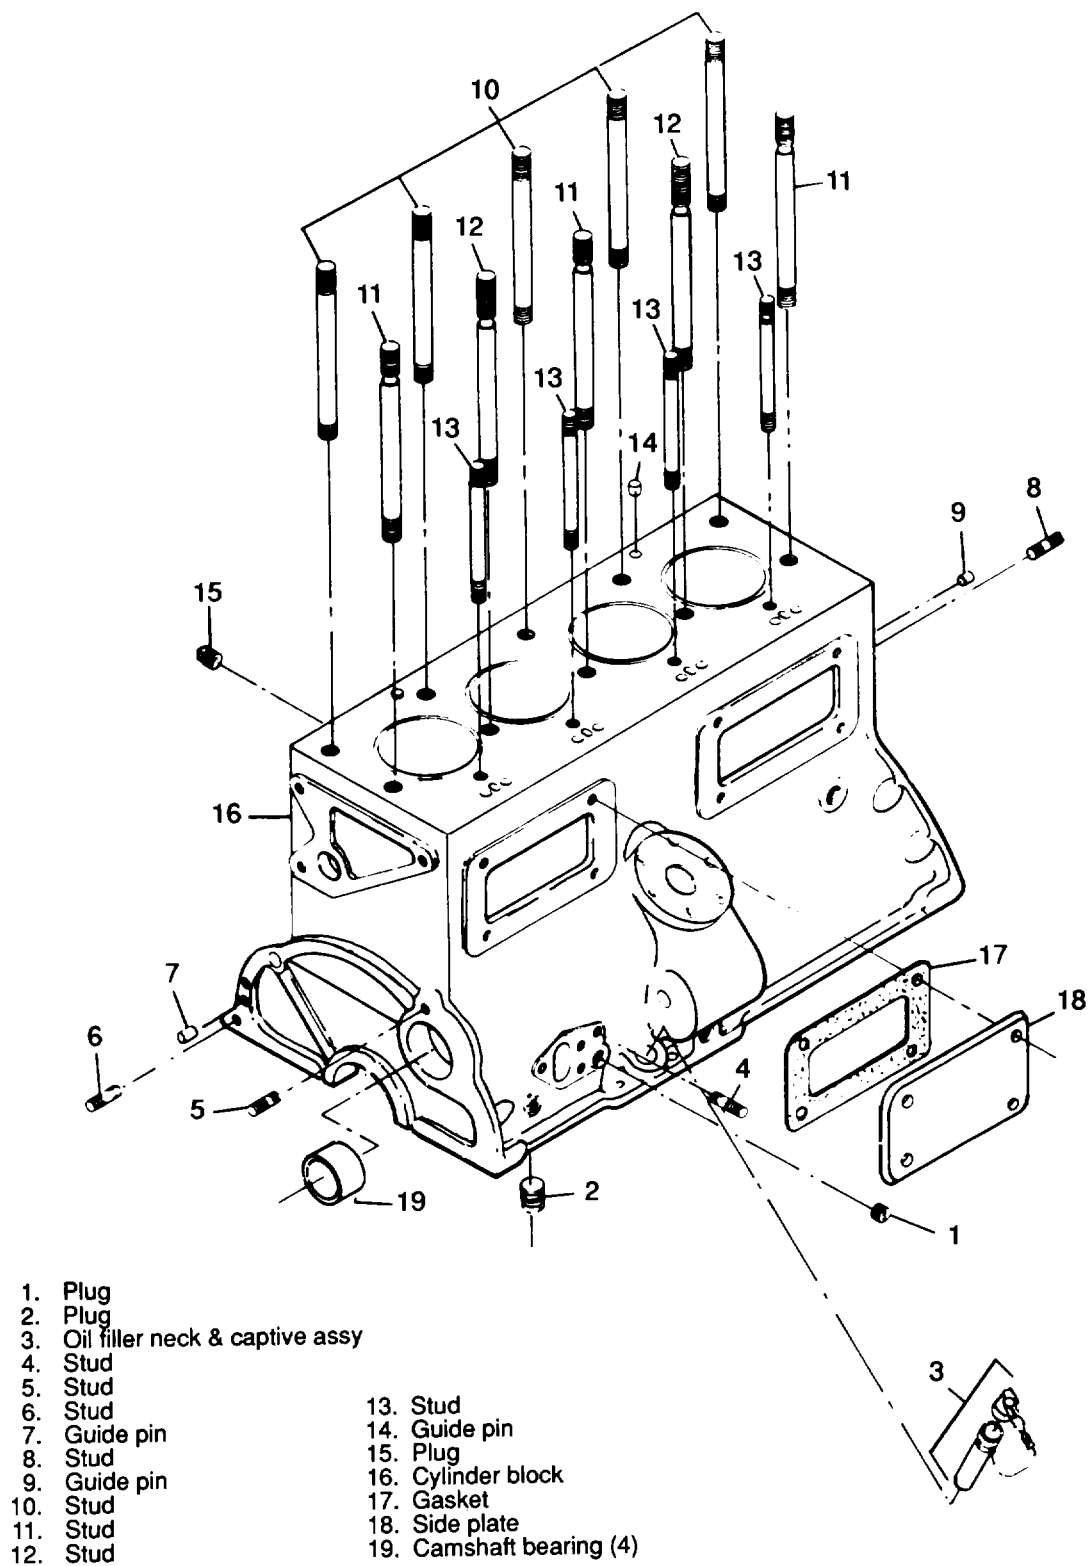

Figure 3-53. Cylinder Block Assembly, Exploded View
- (1) Remove engine assembly (paragraph 2-6).
- (2) Remove timing gears and cover (paragraph 3-51).
- (3) Remove flywheel and flywheel housing (paragraph 3-50).
- (4) Remove cylinder head and rocker arm assembly (paragraph 3-54).
- (5) Remove camshaft and bearings (paragraph 3-55).
- (6) Remove timing gear housing (paragraph 3-51).
- (7) Remove crankshaft, connecting rods, and pistons (paragraph 3-56).
- (8) Remove plugs (1 and 2, figure 3-53).
- (9) Do not remove oil filler neck and captive cap assembly (3) or stud (4) unless inspection reveals damage.
- (10) Do not remove studs (5 and 6) or guide pin (7) unless inspection reveals damage.
- (11) Do not remove studs (8) and guide pin (9) unless inspection reveals damage.
- (12) Do not remove studs (10, 11, 12 and 13) or guide pin (14) unless inspection reveals damage.
(13) Do not remove plug (15) from cylinder block (16) unless replacement is necessary.
- (1) Prior to installation, mask all openings. Treat and paint.
- (2) If removed, position cylinder block (16), and install plug (15).
- (3) If removed, install guide pin (14), and studs (13, 12, 11, 10).
- (4) If removed, install guide pin (9) and studs (8).
- (5) If removed, install guide pin (7) and studs (6 and 5).
- (6) If removed, install stud (4) and oil filler neck and cap assembly (3).
- (7) Install plugs (2 and 1, figure 3-53).
- (8) Install crankshaft, connecting rods and pistons (paragraph 3-56).
- (9) Install timing gear housing (paragraph 3-51).
- (10) Install camshaft and bearings (paragraph 3-55).
- (11) Install cylinder head and rocker arm assembly (paragraph 3-54).
- (12) Install flywheel and flywheel housing (paragraph 3-50).
- (13) Install timing gears and cover (paragraph 3-51).
- (14) Install engine assembly (paragraph 2-6).